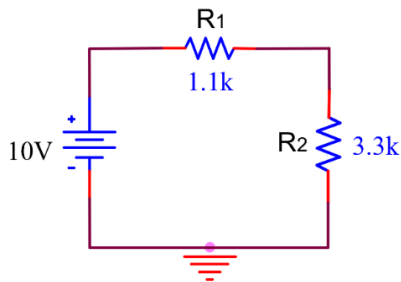

Figure 1.9
2. Calculate R_T , V_1 , V_2 and I for Figure 1.9.